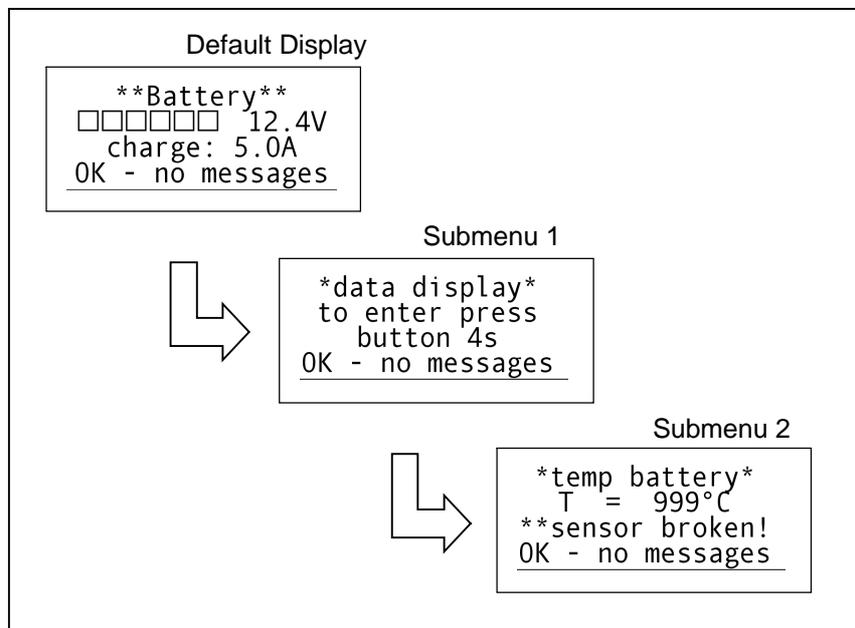

Fig. 15
4. Temperature of Battery (Fig. 15)